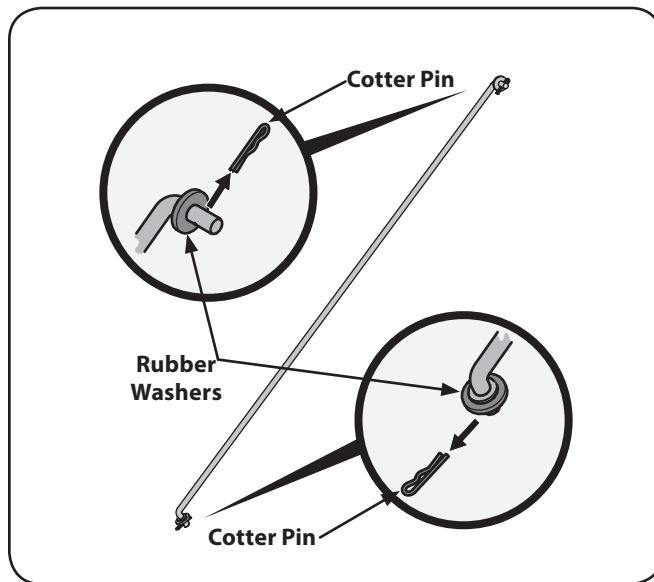

Figure 3-6
2. Remove the cotter pins from the control rod, leave the rubber washers on the control rod. See Figure 3-6.